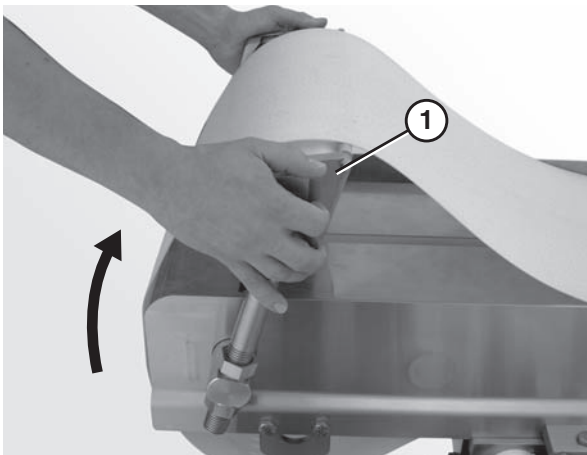

Figure 47
1. Place the idler tail (Figure 47, item 1) in the UP position.